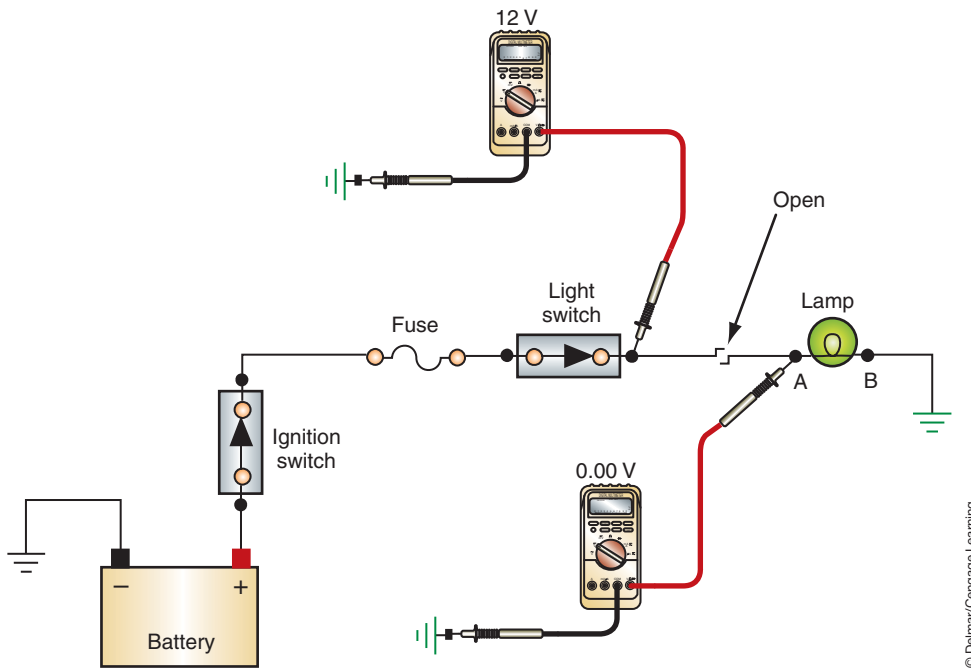

FIGURE 3-3 An open is present between the point where voltage was measured and where it was not.
2. Work toward the battery. Test all connections for voltage. If voltage is present at a connection, then the open is between that connection and the previously tested location (Figure 3-3). Use a jumper wire to bypass that section to confirm the location of the open.